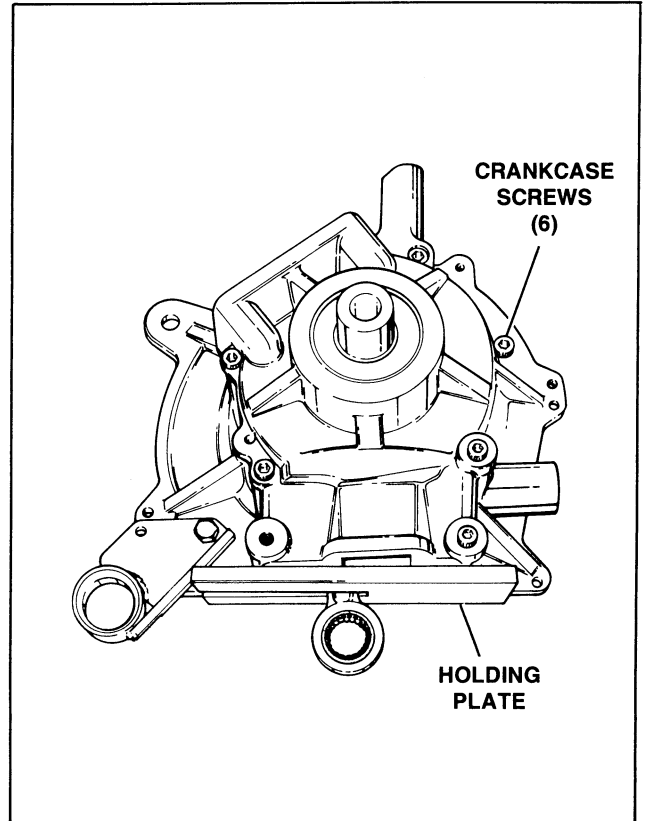

Figure 64 - Separate Crankcase Halves
- g. See Figure 64. Remove the crankcase screws. Tap lightly on the motor mount bosses (using a soft face hammer) and separate the crankcase halves slipping the crankshaft out of the transmission side of crankcase half.
- Place the crankcase halves on a press bed and lube and replace seal. Press in bearings (4). Install internal retaining rings (1).
- Insert the crankshaft in the transmission side of case and gasket (8) into crankcase halves and install the crankcase screws (1), Figure 64. Tighten crankcase screw to 7-9 ft.-lbs. torque.
- f. See Figure 64. Install fan housing (3), stabilizer bolt and nut (1) and fan housing screws (2).